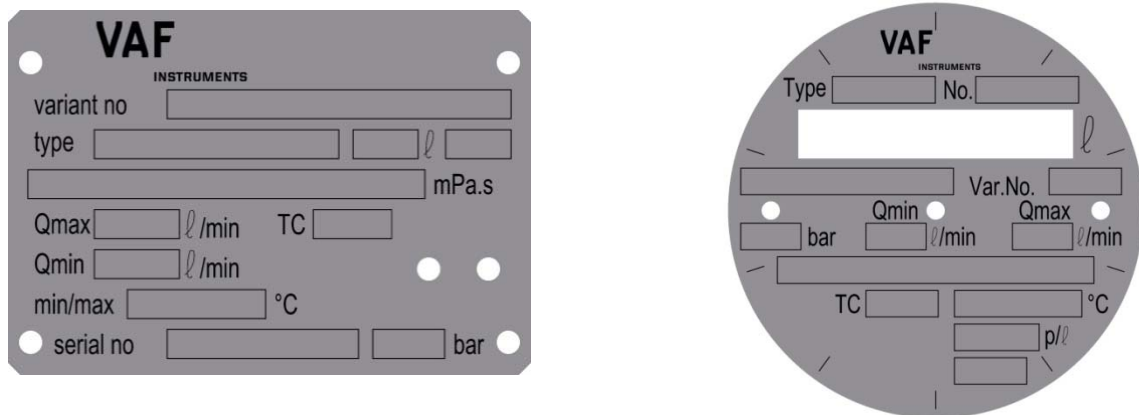

Figure 1 Examples of text plates on pulse transmitter box (left) and totaliser (right).
2. Record text plate data in the relevant space of figure 1.
The flowmeter must be protected against aggressive and heavily polluted environmental conditions. The ambient temperature should be within the range of -15 to 55 \square C. For liquid temperature limits see textplate on flowmeter or figure 1.